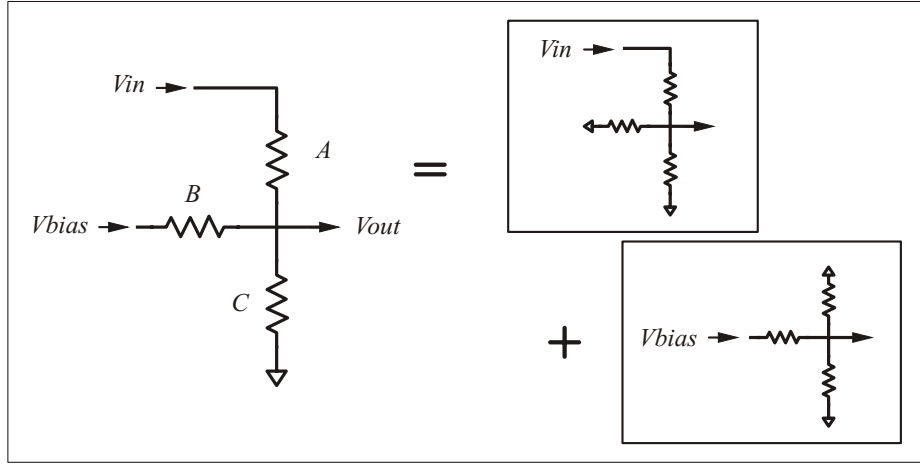

Figure 7: Biased three resistor divider
For the two resistor designs in the previous section, the required bias voltage is fixed by the input and output ranges, and may not be a convenient value. With the addition of one resistor, the bias voltage may be *specified* as part of the design process. Figure 7 shows the three resistor circuit, where the additional resistor C is connected from the V_{out} node to ground.
where our design goal is: given (s, b, V_{bias}) to compute (A, B, C) . Clearly the relationship between (s, b) and the resistors is more complicated than the two resistor equations (7) and (8), and one might even wonder if it is nonlinear. Actually, things are simpler than they appear at first. To see this, start over with Kirchoff's and Ohm's law at the V_{out} node in Figure 7:
With these equations in hand, the general design steps for the biased three resistor circuit in Figure 7 are:
The table in Figure 9 gives the three resistor values (A, B, C) to map a variety of bipolar input ranges into the output range $V_{out} = (0, 5)$ using $V_{bias} = 5.0$ volts. These values should be used with the circuit in Figure 7. The resistor values have been scaled